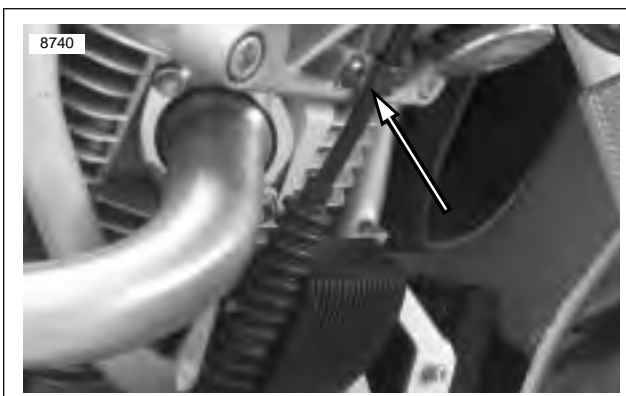

Figure 2-79. Clutch Cable P-clamp
2. See Figure 2-79. Remove clutch cable p-clamp.
4. Tighten front isolator bolt (6) to 49-51 **ft-lbs** (66-69 Nm).
5. See Figure 2-79. Install clutch cable p-clamp. Tighten fastener to 12-36 **in-lbs** (1-4 Nm).